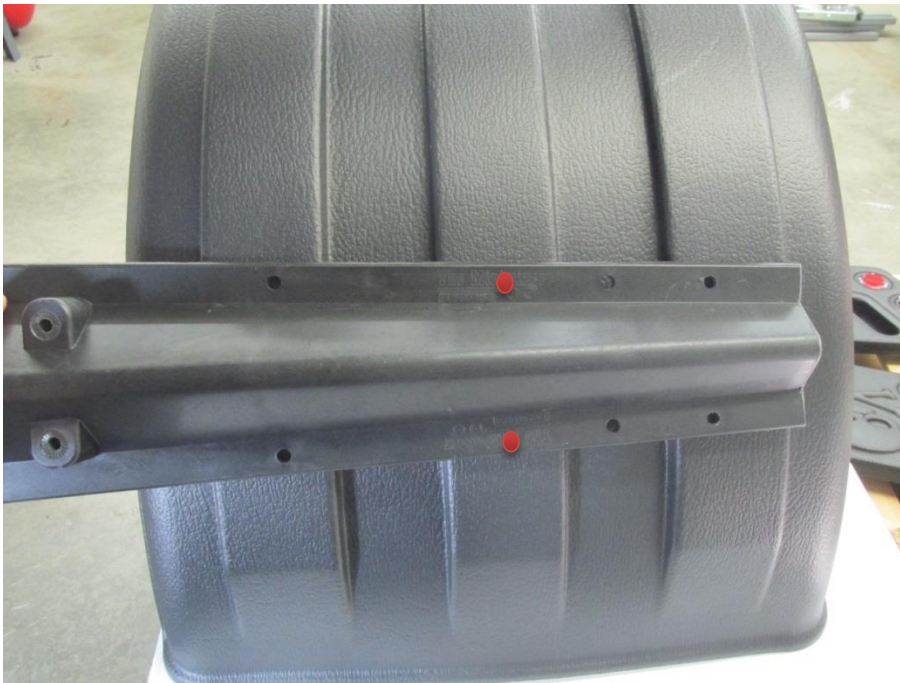

Figure 5 - Trimmed Bracket Aligned With MIN1600 Series Fender
- 5) Once the brackets and fender are attached to the truck, mark and drill two additional mounting holes in the bracket (as needed) to align with center rib of the fender as shown in Figure 5. This step is optional, but recommended.